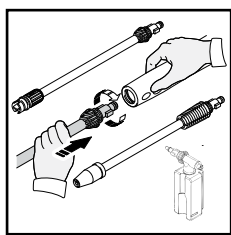

Fig. 7
- While the spray gun is in the locked position, insert the turbo lance, the adjustable spray lance, or the detergent bottle directly into the end of the spray gun by inserting and pushing together and turning clockwise simultaneously. To remove push together and turn counter clockwise (Fig. 7). Push the safety lock button to lock the trigger when changing lances or detergent tank, to ensure that they do not accidentally eject with force during removal.